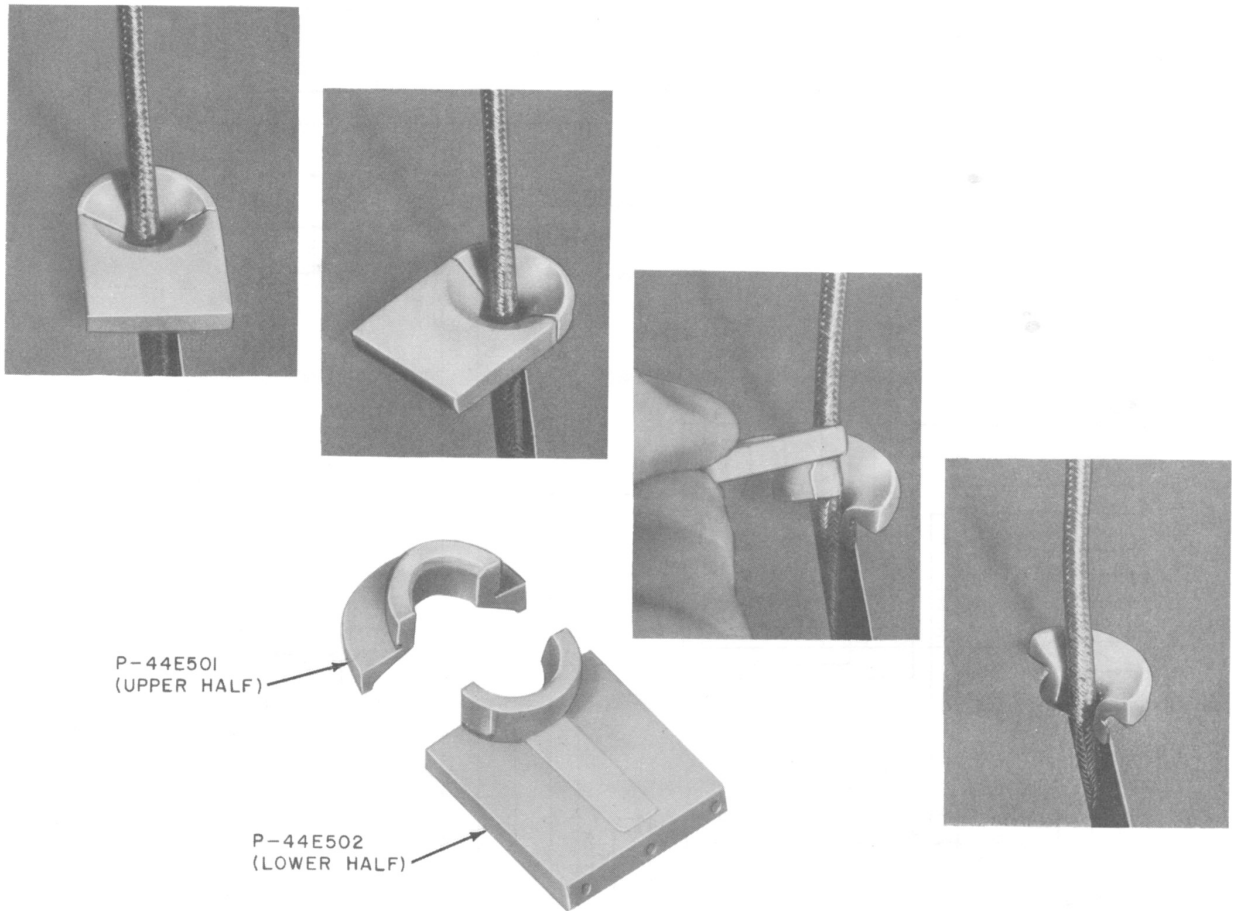

Fig. 3—Removal of Handset Cord Grommet
- (1) Grasp mat retainer frame at top, lift upward and out to release frame from panel of set.
- (2) Remove handset from hook of set.
- (3) Pull out handset cord to allow working slack.
- (4) Remove mat from face of panel.
- (5) Remove grommet from mat as shown in Fig. 3.
- (6) Install grommet in new mat by reversing procedure used in removal.